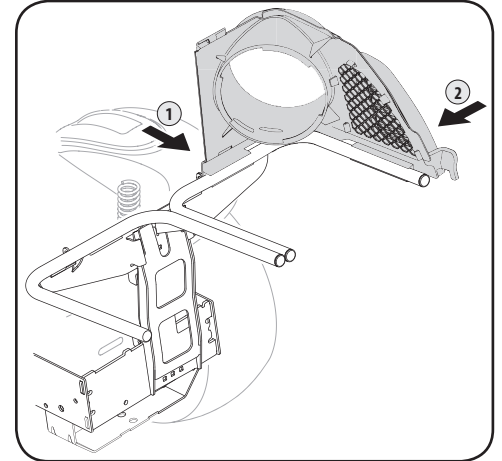

Figure 4-12
1. Tilt the front of the upper chute support slightly forward. Slide the clip behind the tab, then snap the front latch to the rail, as shown in (1) of Figure 4-12.
2. Snap the upper chute support in place by first clipping the side portion onto the bagger support rail. See (2) in Figure 4-12.